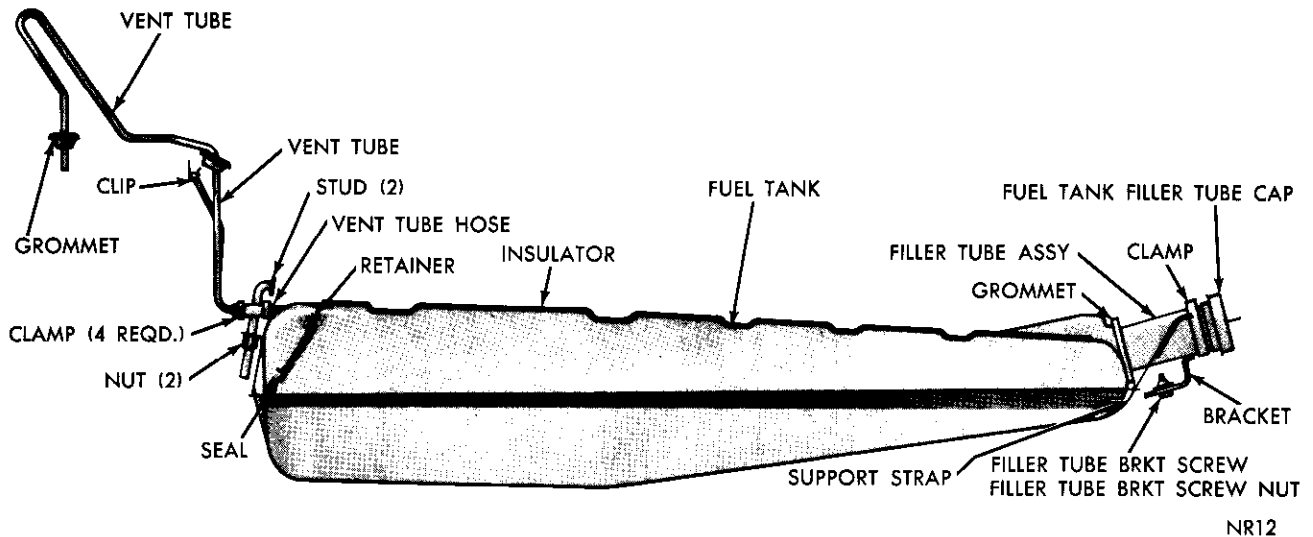
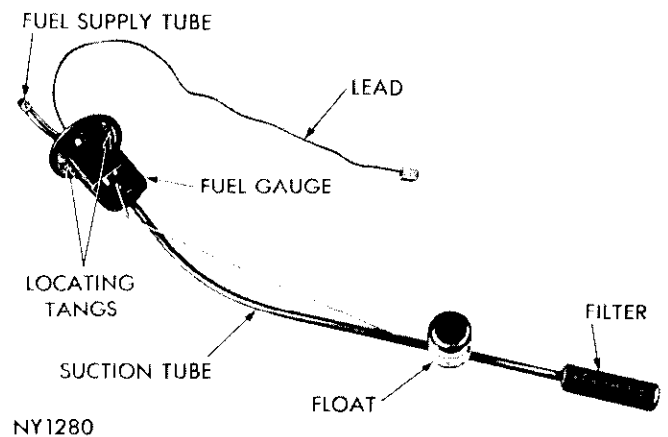

Fig. 2—Fuel Tank Assembly (116.5 inch W/B Vehicles) Sedans
Fig. 3—Fuel Gauge Tank Unit
- (2) Disconnect vent tubes at hose connection at leading edge of tank (Fig. 2).
- (3) Remove screw that attaches filler tube bracket to rear crossmember.
- (4) Remove nuts that hold ends of fuel tank hold down straps to frame. Lower front end of tank far enough to disengage filler tube from rear panel and slide out from under vehicle.
- (5) Remove tank gauge unit, using spanner wrench Tool C-3582 (Fig. 3). Check rubber grommet around filler tube. If cracked or deteriorated, install a new grommet at reassembly.